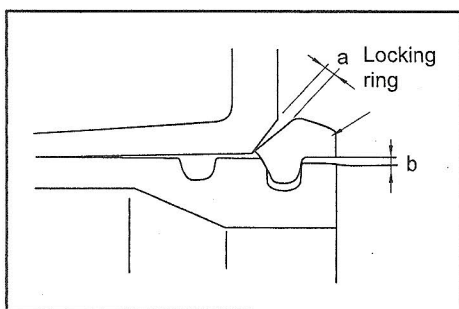

Fig. 05-20
(1) Measure the dimensions of "a" and "b" with a ruler (See Fig. 05-20).
(2) Clearance of tire ring: